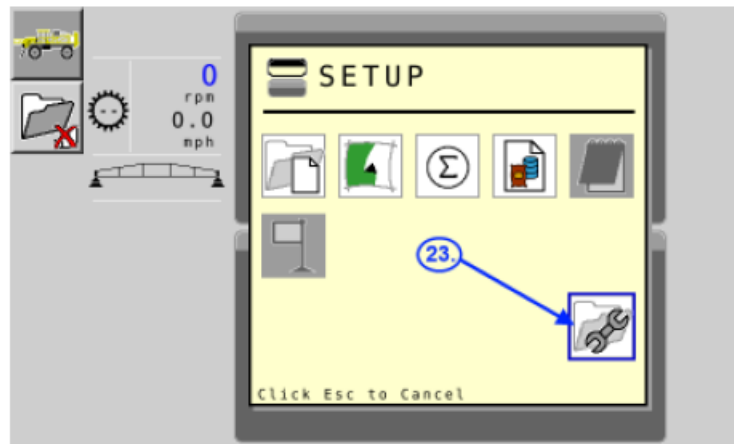

Figure 22.
23. Select *Setup*.{Figure 22}